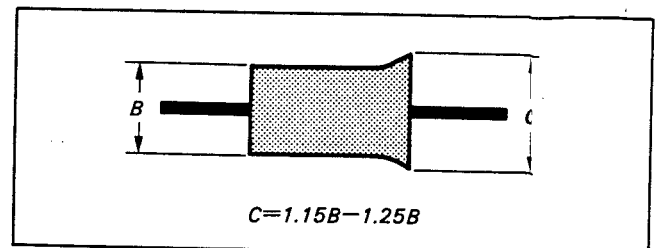

Fig. 4-15
- 5) Turn No.5 guide so that the exit side waveform flats slightly. (Fig. 4-15)